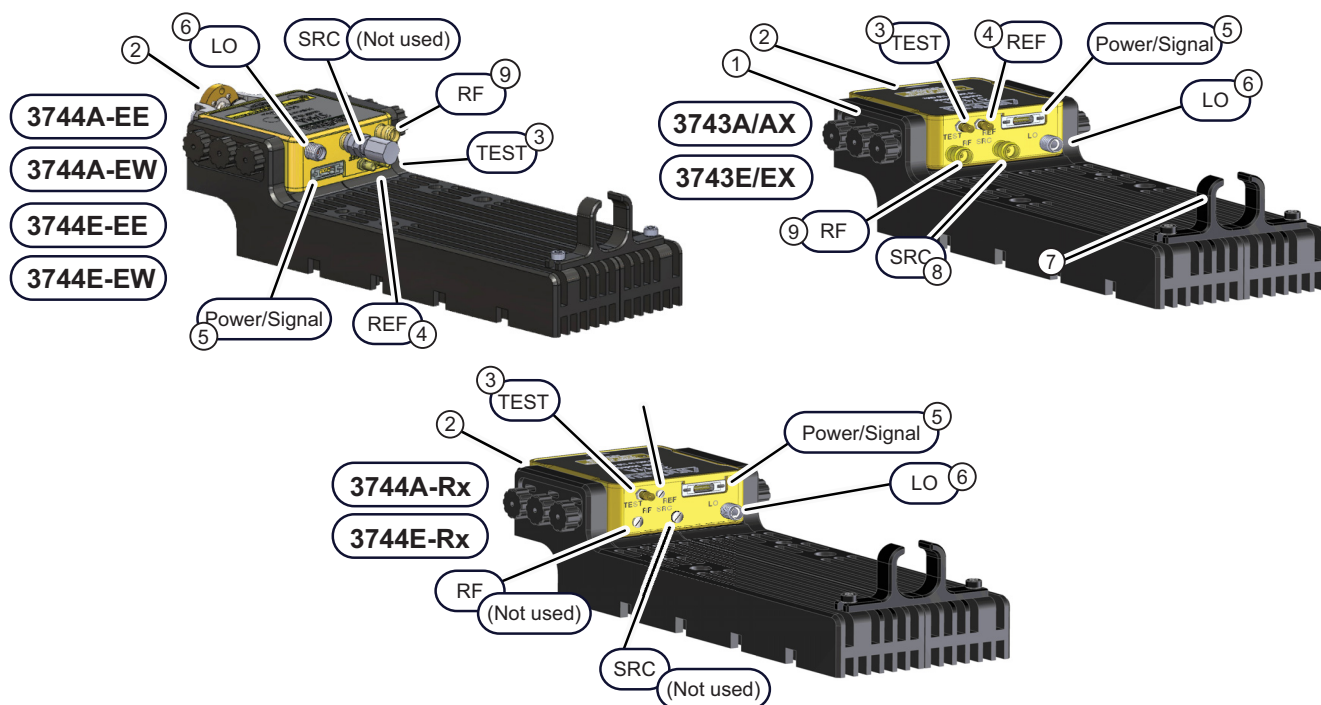
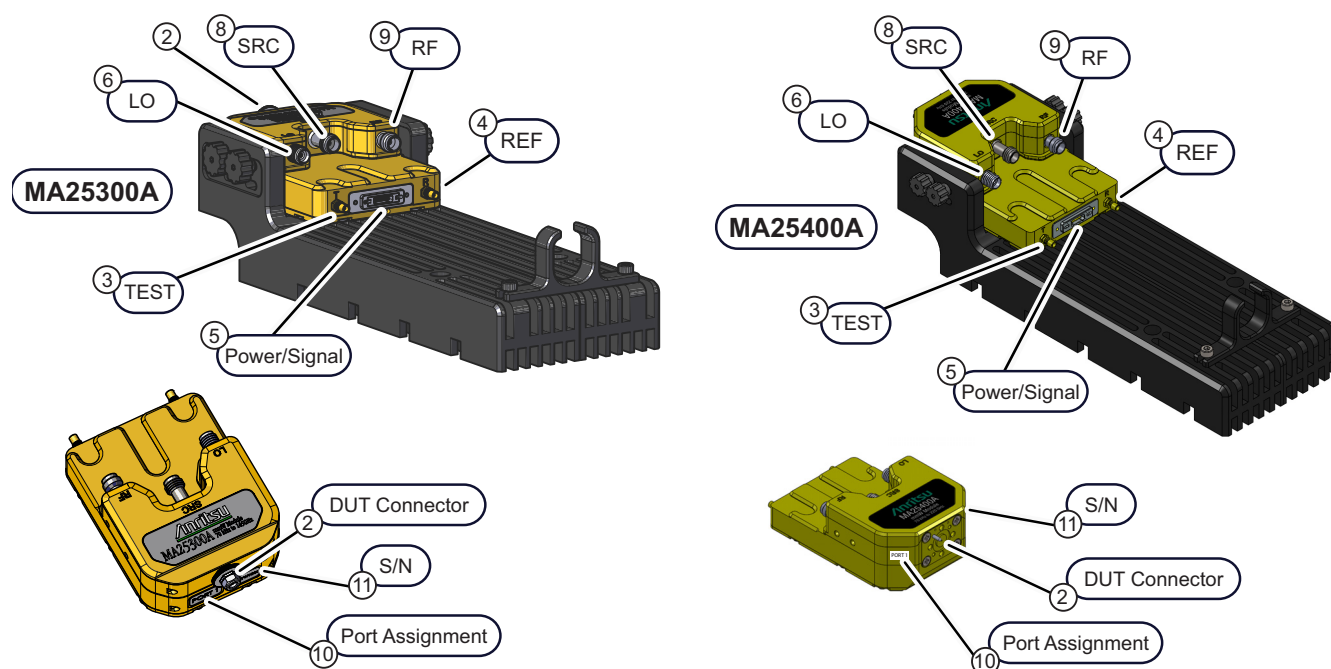

Figure 2-6. mmWave Module Connections—374x Modules
Figure 2-7. mmWave Module Connections—MA25300A and MA25400A modules
Connect the 3739B/C Broadband Test Set cables to the modules as shown below, observing the correct torque limits for each connector. See Figure 2-6, Figure 2-7, and Table 2-5.
Each module (except the 3744A-Rx and 3744E-Rx) is characterized for absolute power for a specific VNA Serial Number and VNA Test Port as designated on the module port assignment label (see item 10 in Figure 2-6 - Port Designation). Ensure the module matches the correct VNA and Test Set port.